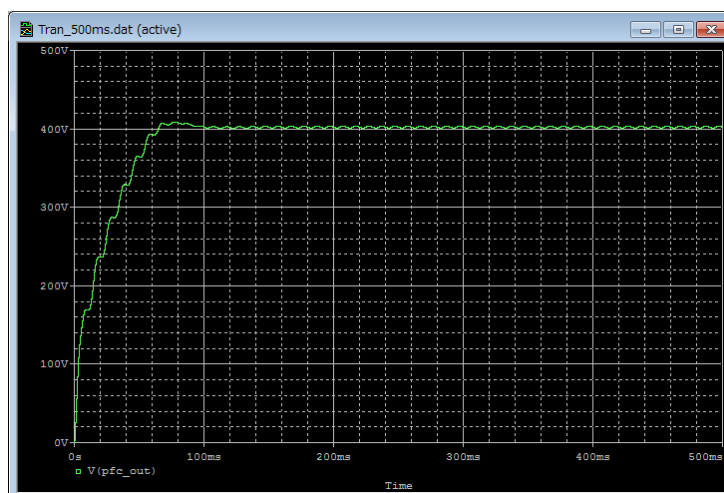

Fig. 5.10 Simulation waveform view (Example: Output voltage waveform)
- (3) Then, its waveform appears in the graph window of PSpice® A/D as shown in Fig. 5.10.